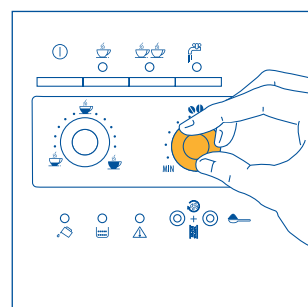
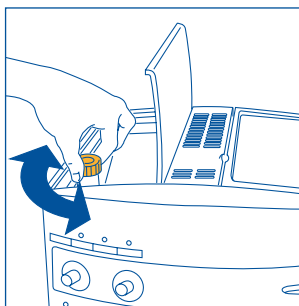

Fig.7
Fig. 17
- 2) Adjust the coffee flavor dial (Fig. 7) to set the desired taste of the coffee. Turning the knob clockwise increases the quantity of coffee beans that the machine will grind, and thus makes the taste of the coffee stronger. When using the machine for the first time, the correct position of the knob can be found by trial and error. Make sure not to turn it too far clockwise, otherwise the coffee will be delivered too slowly (in drips), in particular when preparing two cups of coffee.
**NOTE 1:** *If the coffee is delivered a drop at a time or not at all, turn the grinding coarseness regulator (fig. 17) one click clockwise (see section 6). Turn a click at a time until the coffee is delivered satisfactorily.*
**NOTE 2:** *If the coffee is delivered too fast and is not creamy enough, turn the coffee flavor dial (fig. 7) clockwise. Proceed by trial and error to find the correct position of the dial. Make sure not to turn the dial too far clockwise, otherwise the delivery may become too slow (in drips), in particular when making two cups of coffee. If, after several coffees, the cream is still not satisfactory, also turn the grinding coarseness regulator (Fig. 17) one click counter-clockwise (see section 6).*
To resolve this problem, re-set the grinding coarseness by adjusting the regulator (Fig. 17) one click counter-clockwise (as described in chap. 6).
Nonetheless, after having made the first coffees, if delivery is too fast or too slow (in drips), the grinding coarseness regulator can be adjusted (Fig. 17). Turning one click (one number) clockwise achieves faster delivery of the coffee (without drips).